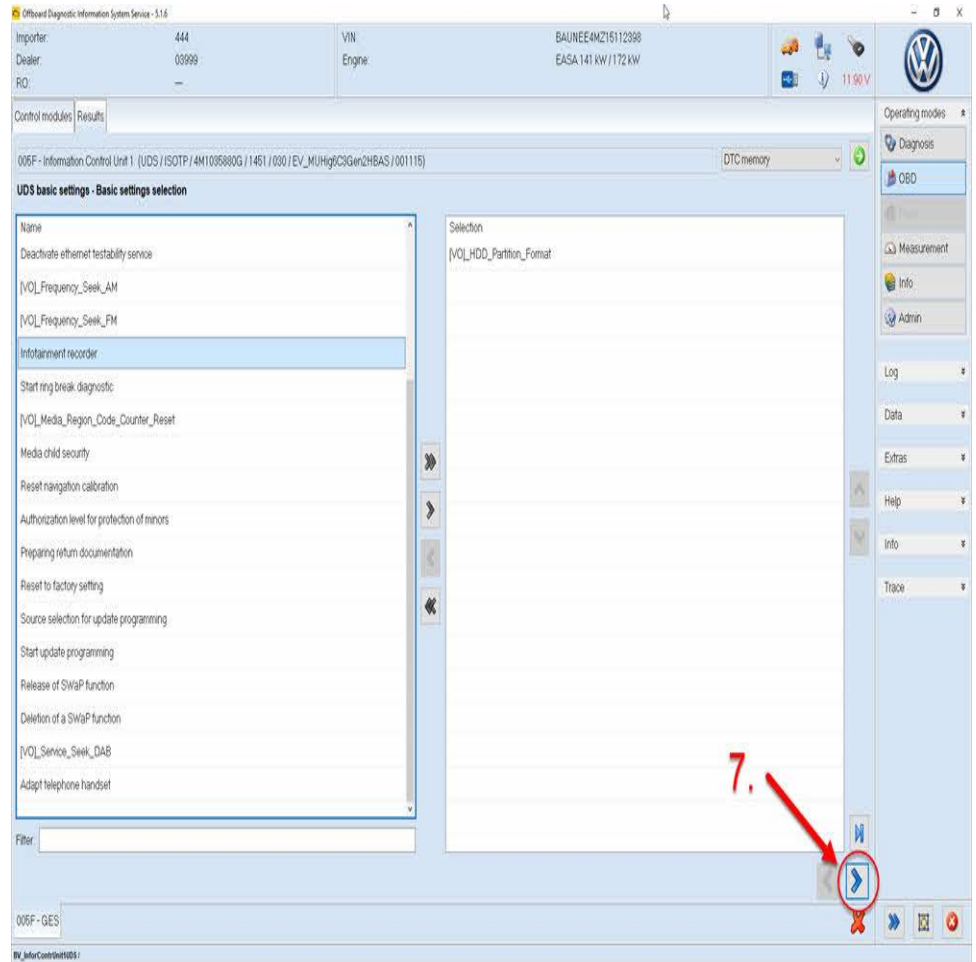

Figure 5. Select next.
4. Hit the “Next” button on the bottom right (7) (Figure 5).